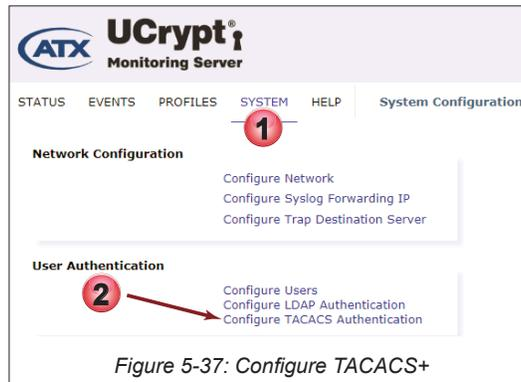

Figure 5-37: Configure TACACS+
1. Click the **System** tab if it is not already selected, Figure 5-37.